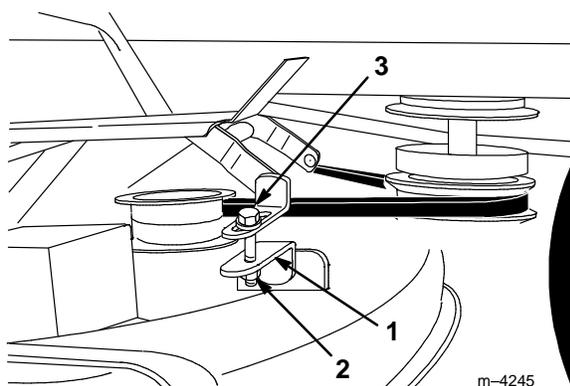

Figure 11
- To adjust front-to rear blade level loosen the jam nut on both front adjustable links. (Fig. 11).
- Rotate the bolt on each front adjustable link to change front-to rear blade level (Fig. 11).